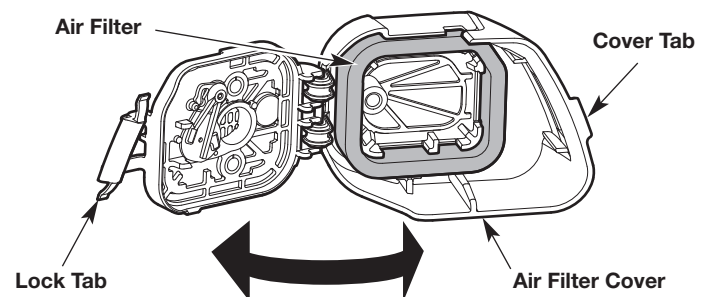

Fig. 23
1. Open the air filter cover: Hook your fingers behind the cover tab. To unlock the air filter cover, pull it to the left and away from the engine. This may require a firm pull. Swing the air filter cover to the right (Fig. 23).
2. Remove the air filter from inside the air filter cover (Fig. 23).
- Reinstall the air filter inside the air filter cover (Fig. 23).
- Close the air filter cover: swing the air filter cover to the left and press it closed until the lock tab snaps into place (Fig. 23).